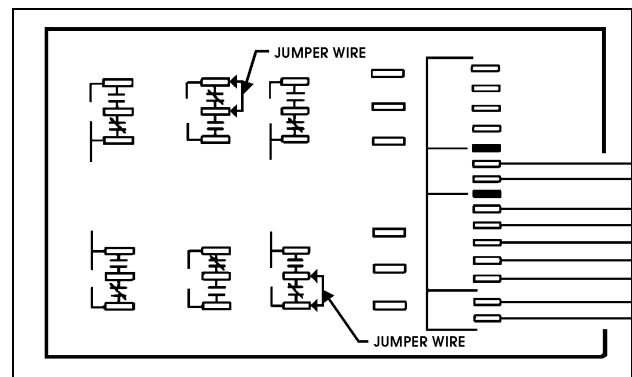

FIGURE 18: HVAC LOGIC PANEL
3. Open the baggage compartment located at the right of the HVAC compartment door, unscrew the retaining screw on back wall of the compartment a quarter of a turn. Slide the "A/C and Heating Junction Box Sliding Drawer". Locate the **cooling contact 3** on the HVAC logic panel. Install a jumper wire between the central terminal of this stage and its normally-closed contact terminal as illustrated in Fig. 18. Locate the **cooling contact 2**. Install a jumper wire between the central terminal of this stage and its normally-closed contact terminal as illustrated in Fig. 18.